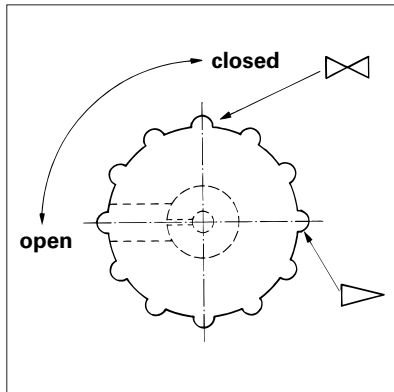

Fig. 16: Function of the gas ballast operating knob
■ Function of the operating knob: see figure 16.